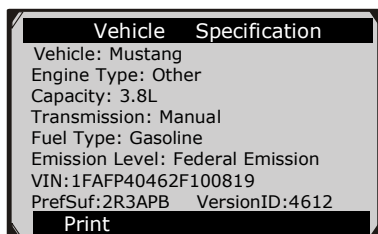

Figure 4-3
- 4) Review selected data on screen. (Figure 4-3)